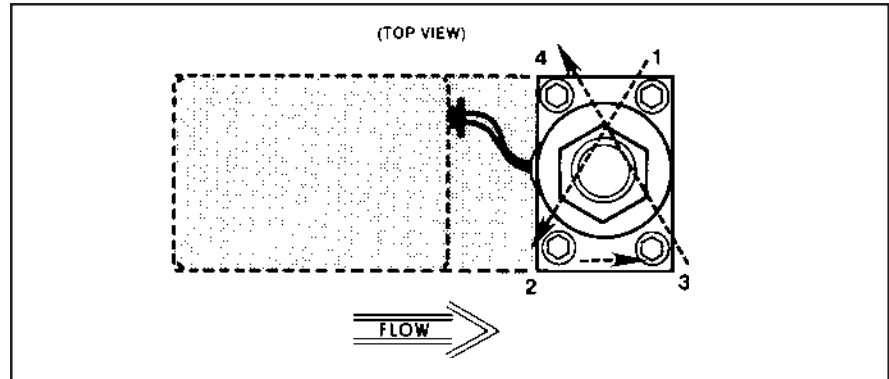

Figure 4-1 Torque Sequence for the Valve Retainer Plate
**The end block screws (31) and the valve screws (3) are not interchangeable. The end block screws are stronger and are needed for the pressure rating. The end block screws are darker in color and can be attracted by a magnet.**
4. Press the lubricated sensor O-rings (17) into the flow controller body (14). Install the sensor assembly and secure with two screws (18) and washers (19) tightened to 15 in/lbs.
5. Install the orifice (12) and its O-ring (13), using a 3/8 nut driver. Insure that the orifice is fully seated but do not overtighten.
6. Insert the valve preload spacers (10), if used, into the valve cavity in the flow controller body (14). Use care to preserve the correct order.
7. Install the valve plunger assembly (7, 8, 9 and 11) on the preload spacers (10). Install air gap spacers (10), if used, on top of the valve springs.
8. Install the valve stem assembly (6), secure with the valve retaining plate (4) and four hex socket screws (3). When installing the screws they should first make light contact with the plate, which should be checked to insure that it makes full contact around the stem assembly. Torque the screws securing the valve retaining plate in a diagonal pattern (Refer to Figure 4-1) to 15 in/lbs.